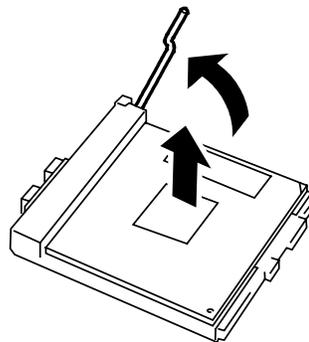

Figure 4-14. Removing the Processor
6. Swing its processor socket lever up until it is in the unlocked position and carefully remove the processor. See Figure 4-14.
9. If applicable, locate the appropriate DIMM sockets on the system board (see Figure 4-14).